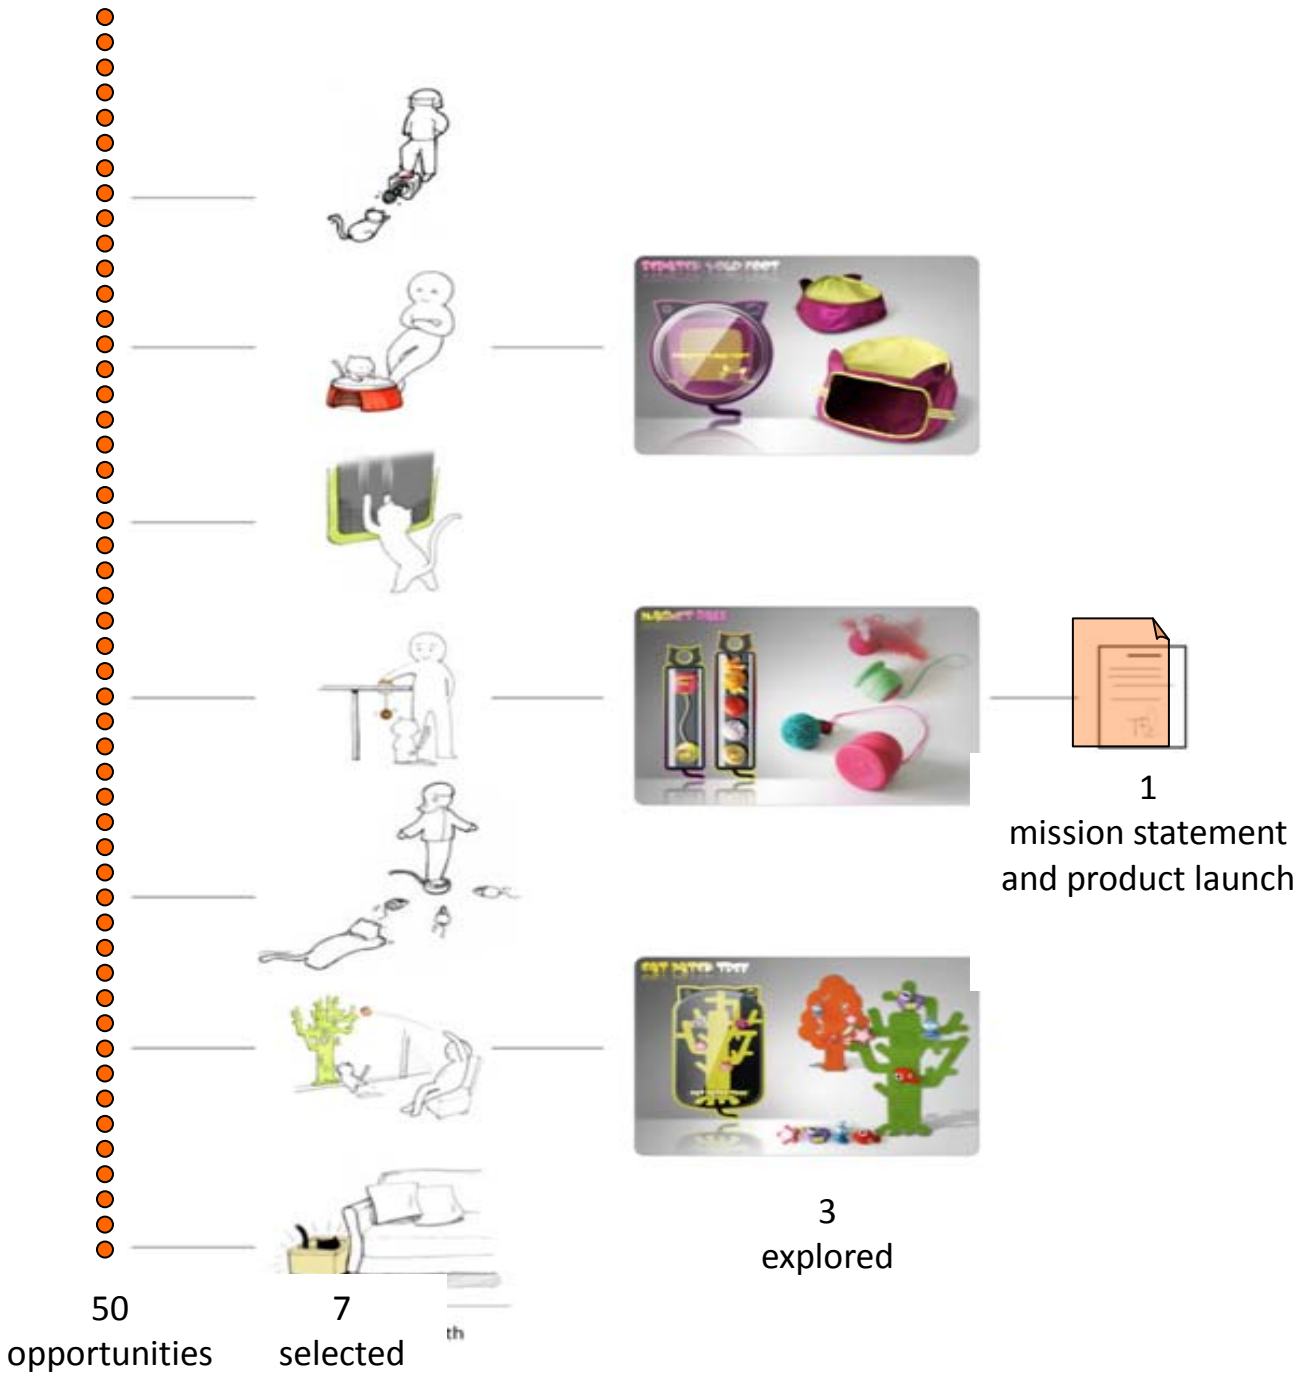

Figure 4(c)
- (c) Figure 4(c) shows the overall tournament structure of the opportunity identification process for *Frolicat*. Given that great opportunities are rare, how can the opportunity identification process be managed to increase the number of excellent opportunities can be identified?